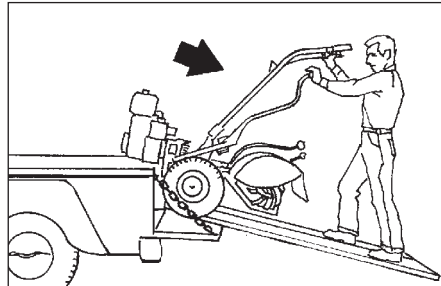

Figure 4-8: To go down ramps, use REVERSE drive.
5. Move and hold the Wheels/Tines/PTO Lever into REVERSE drive and back down the ramps (Figure 4-8). Check the wheels as you move the tiller backward. Ensure that they move down the center of each ramp.